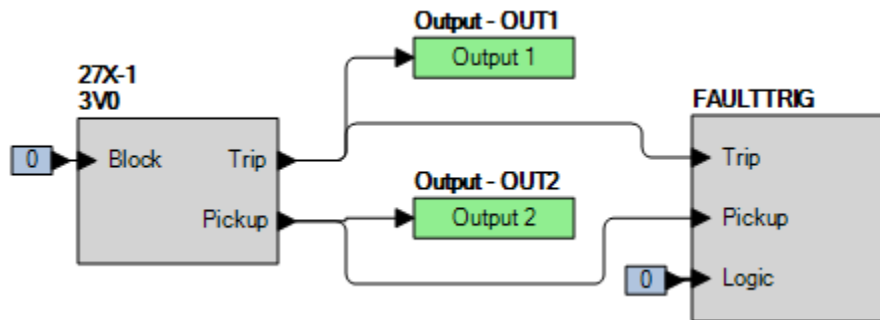

Figure 58-1. BESTlogicPi+ Settings (3V0 Mode)
Step 2: Use BESTCOMSPi+ to configure the BESTlogicPi+ programmable logic shown in Figure 58-1.
- Step 4: Prepare to monitor the 27X-1 function operation. Operation can be verified by monitoring OUT2 (see Figure 58-1).